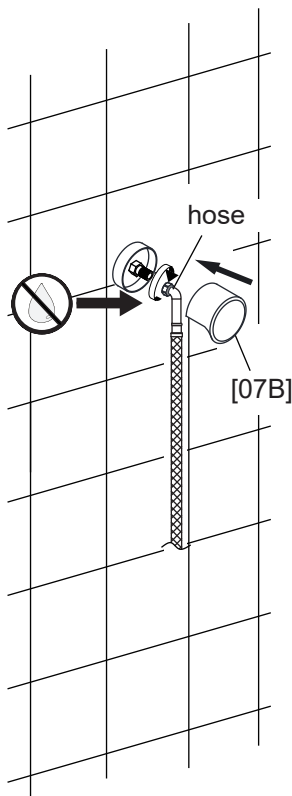

Fig 5.2
- 5-1** Connect the **hose** to the **Nipple [08]** and tighten it to secure. (Fig 5.2)
- 5-2** Before hanging the shower panel onto the wall, turn on the faucet and test all water functions of the shower panel and check all connections for leaks. Install the **Cap [07B]** to the **Base [07A]**. (Fig 5.2)